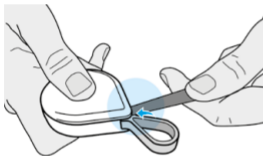

Fig. 4a
1. Between the lower and the upper part of the housing slide flat, rigid tool in the position shown in Fig. 4a.